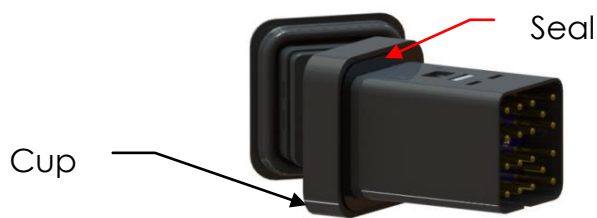

Figure 8
- 3.5. Panel Installation - The watertight switch is ready for installation into the panel. The cup shall interface against the housing lip flange, and the seal shall reside against the bottom of the cup in the bottom side cup. The seal must be fully seated within the cup cutout on the bottom side in order to prevent seal squeeze out when installing the switch to the panel (Figures 8 and 9).